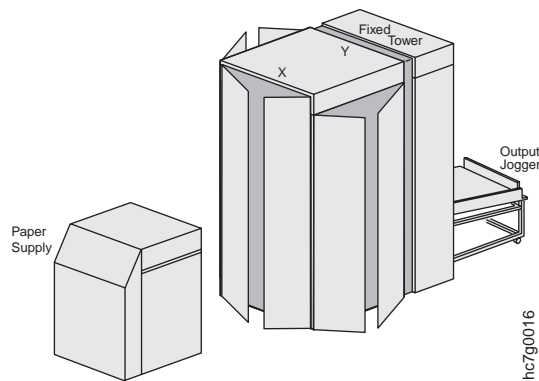

Figure 287. Right Side View of the InfoPrint Color 100
1. Move the paper supply away from the print tower, as shown in Figure 287.